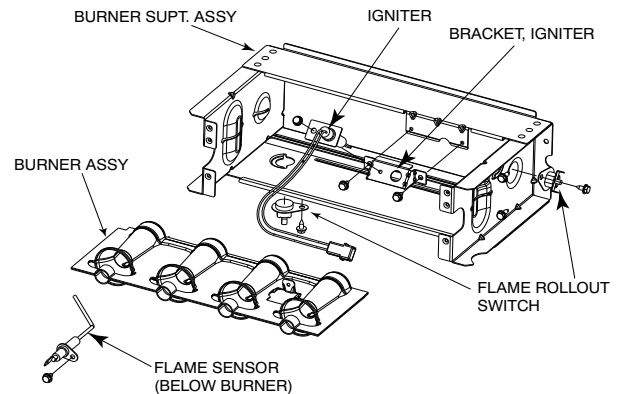
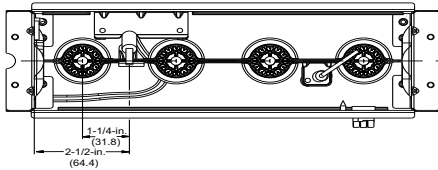
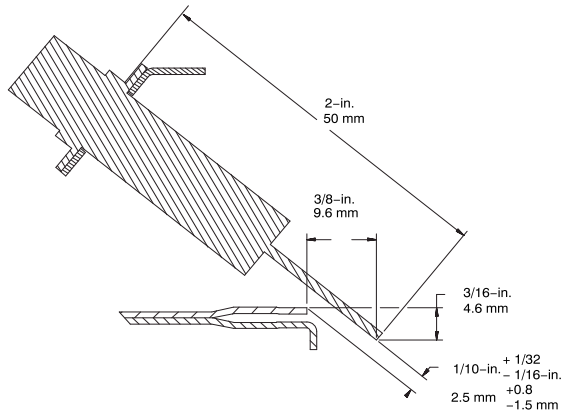

Fig. 68 – Burner Assembly
Fig. 69 – Igniter Position - Top View
Fig. 70 – Igniter Position - Side View
Refer to Fig. 68.
8. Check the igniter alignment. See Fig. 68, Fig. 69, and Fig. 70.
The igniter does **NOT** require annual inspection. Check igniter resistance before removal. See Fig. 68, Fig. 69, and Fig. 70.
- a. Using a 1/4-in. driver, remove the two screws securing the igniter mounting bracket to the burner assembly See Fig. 68.
6. To replace igniter and bracket assembly, reverse items 5a through 5d.
7. Reconnect igniter harness to the igniter, dressing the igniter wires to ensure there is no tension on the igniter itself. See Fig. 68.